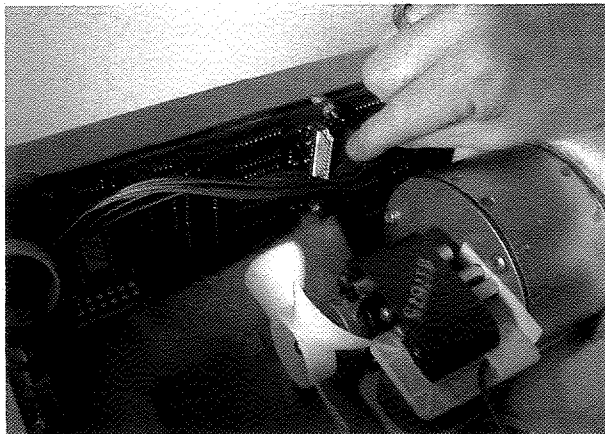

Figure 23
2. Unplug circuit board from digital display. (See Figure 23)